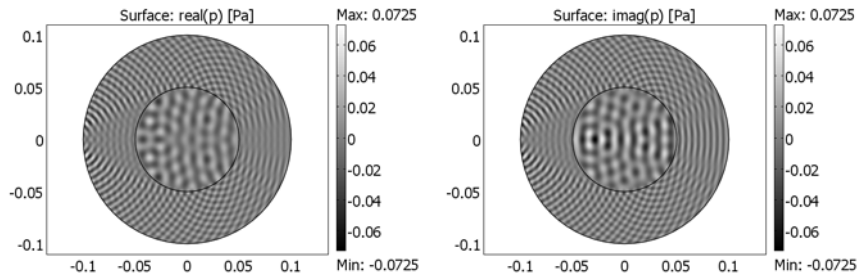

Figure 2-26: Real (left) and imaginary (right) parts of the acoustic pressure field.
The incoming and scattered waves are most easily distinguishable in the grayscale plots in Figure 2-26 of the pressure field's real (left) and imaginary (right) parts. (Because COMSOL Multiphysics by default plots the real part of a time-harmonic variable such as  $p(\mathbf{x}, t) = p(\mathbf{x})e^{i\omega t}$ , the plots in Figure 2-25 and the left panel of Figure 2-26 depict the same quantity.
Proceed to generate the plots in Figure 2-26 with the following steps:
- 9 Click **Apply** to generate the plot in the left panel of Figure 2-26.